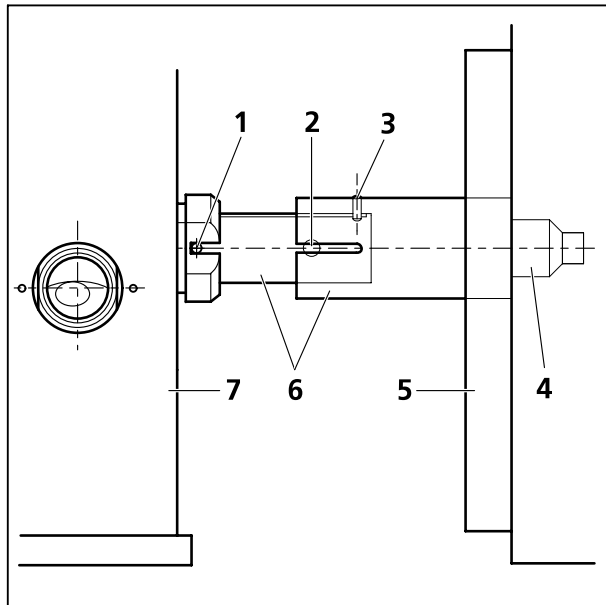

Fig. 1-21 Tube connection from the periscope
- Unfasten the screw that clamps the outer tube to the inner tube (Fig. 1-21/3).
- Pull out the tube from the periscope cover by sliding the inner tube into the outer tube (Fig. 1-21/6).
- Turn the outer tube counter clockwise to unscrew the tube (Fig. 1-21/4) from the small black tube which is fixed to the scan head.
- For rearranging the beam housing, first screw the tube to the scan head (Fig. 1-21/4). It should not be fastened completely to allow the inner tube to fit the side pin into the recess of the ring on the periscope (Fig. 1-21/1) and the recess of the outer tube (Fig. 1-21/2).